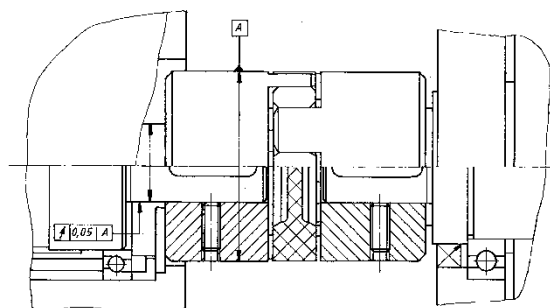
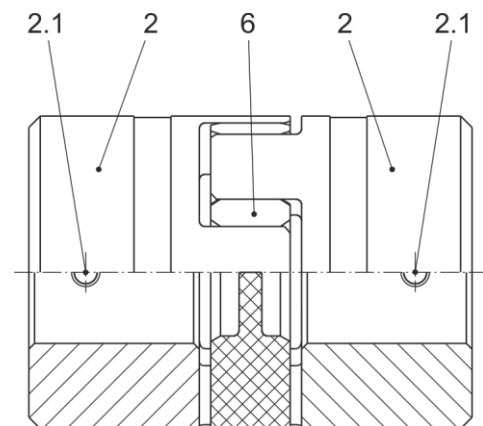

Fig. 5
Fig. 11
- ❑ The recommended bore tolerances are to be produced using the position and tolerance width as references; at the same time, please keep to the shaft run-out tolerance of 0.05 mm to "A" (see Fig. 5).
Any subsequent screwing together and special housings are not necessary (see Installation Examples figures 5, 6 and 15).
Installation of the Coupling Hubs with Keyway (Item 2 / Fig. 11)
- 1) Mount the coupling hubs (2) onto both shaft ends using a suitable device and bring them into the correct position.
- 2) Secure the hubs (2) axially. Axial securement takes place via a set screw (adjusting screw Item 2.1, see Fig. 11 and installation example Fig. 5 / page 15).